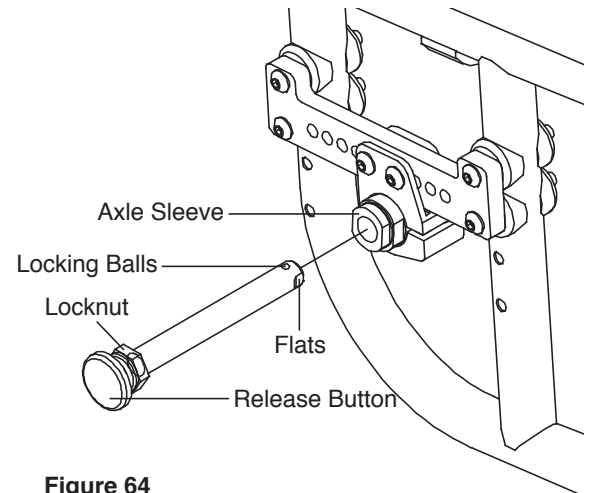

Figure 64
1. Depress the release button and remove rear wheel and quick release axle. See Figure 64.